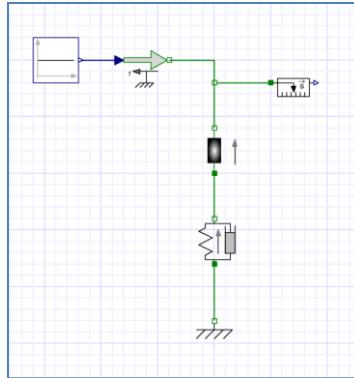

Figure 7.1. Sliding mass-spring -damper model
2. Connect the model as shown in Figure 7.1. For help on building your model, see 4. Building Models: Creating a Controlled Arm.